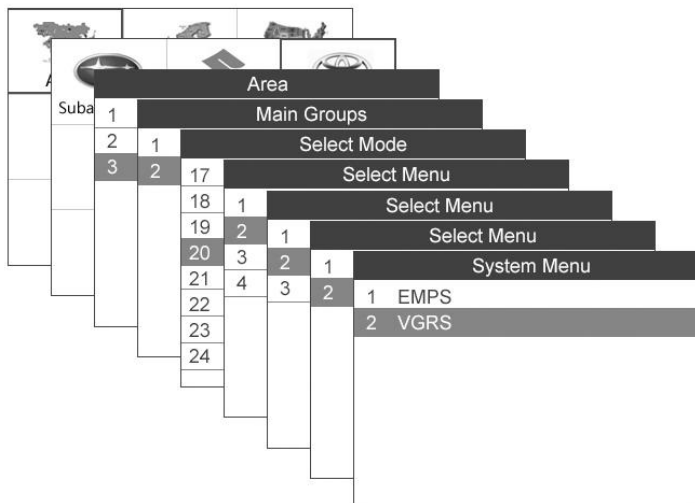

Figure 10.1
8. Wait for a series of vehicle identification screens appears for user to identify the vehicle. (Figure 10.1) On each screen that appears, use the **UP/DOWN** scroll button to select the correct option and then press the **OK** button. Do this until the vehicle is completely identified.